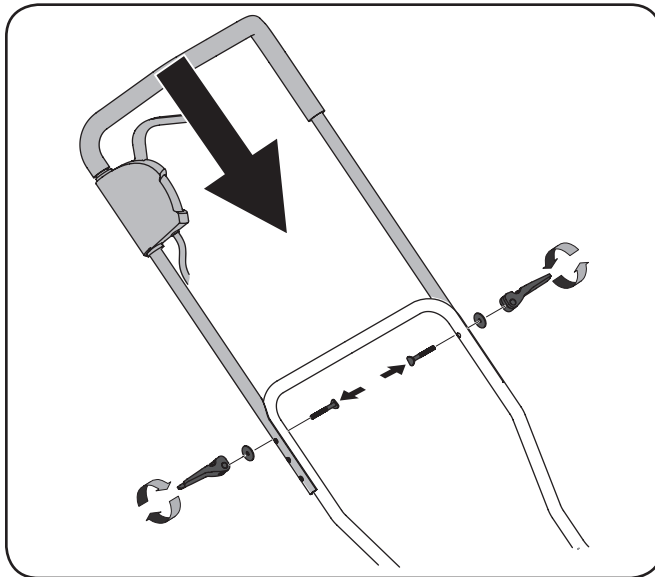

Figure 3-3
3. Place the upper handle onto the lower handle, keeping the motor cord over the handles. See Fig. 3-3.
4. Insert toggle clamps packed separately with the mower into the holes for the selected height. See Fig. 3-3.